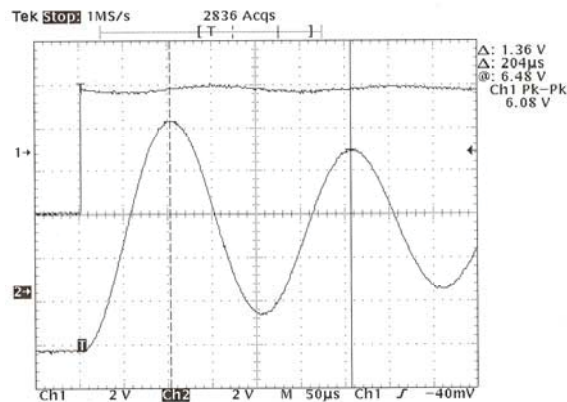

Figure 1.15
12. Next, press MEASURE and remove all measurements using the menu . Press CURSORS and select 'Paired Cursors'. Reset the FG output to obtain a square-wave Ch1 signal of about 6 volts peak-to-peak at a frequency of about 100 Hz. The waveform on Ch2 should also display a square-wave, but with an oscillatory part at the beginning of each half-cycle : Adjust the SEC/DIV knob until only the positive-going section of one cycle of the waveform is displayed, as shown in Figure 1.15 for example.
[The oscillatory part of the Ch2 signal in Figure 1.15 is called a 'damped sinusoidal response' (also known as the 'under-damped response' of a 'second-order circuit'). Step 13 below illustrates the measurement of typical parameters of such a response]
- (b) Voltage between and time T between the first two positive peaks of the oscillation [an example of this measurement is shown in Figure 1.15]